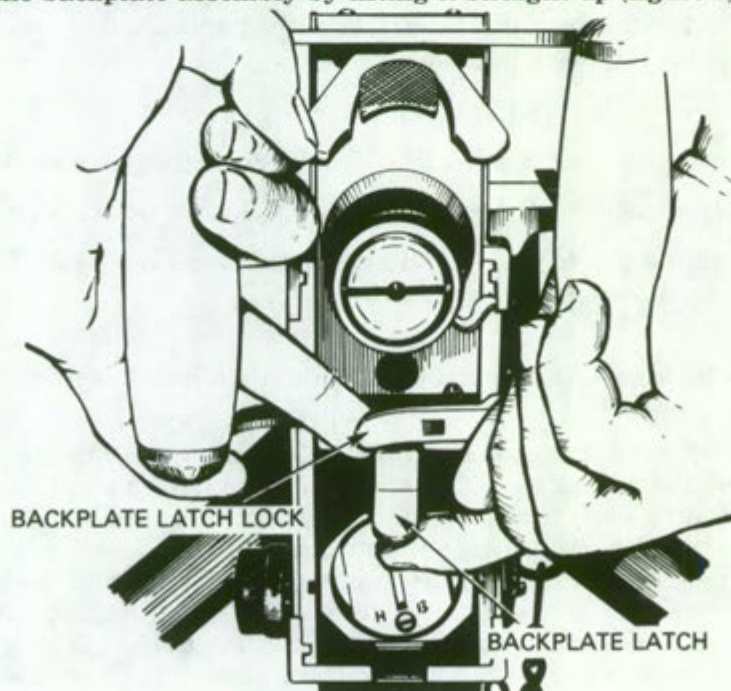

Figure 2.
c. Backplate Assembly. To remove the backplate assembly, insure that the bolt latch release is up. If it is not, push down on the bolt latch release and turn the buffer tube sleeve clockwise until the bolt latch releases. The bolt must be forward before the backplate assembly is removed. If the bolt is to the rear, push down on the bolt latch release and let the bolt ride forward by holding the retracting slide handle. The backplate latch and the latch lock are below the buffer tube. Pull out on the latch lock and up on the latch; remove the backplate assembly by lifting it straight up (figure 2).